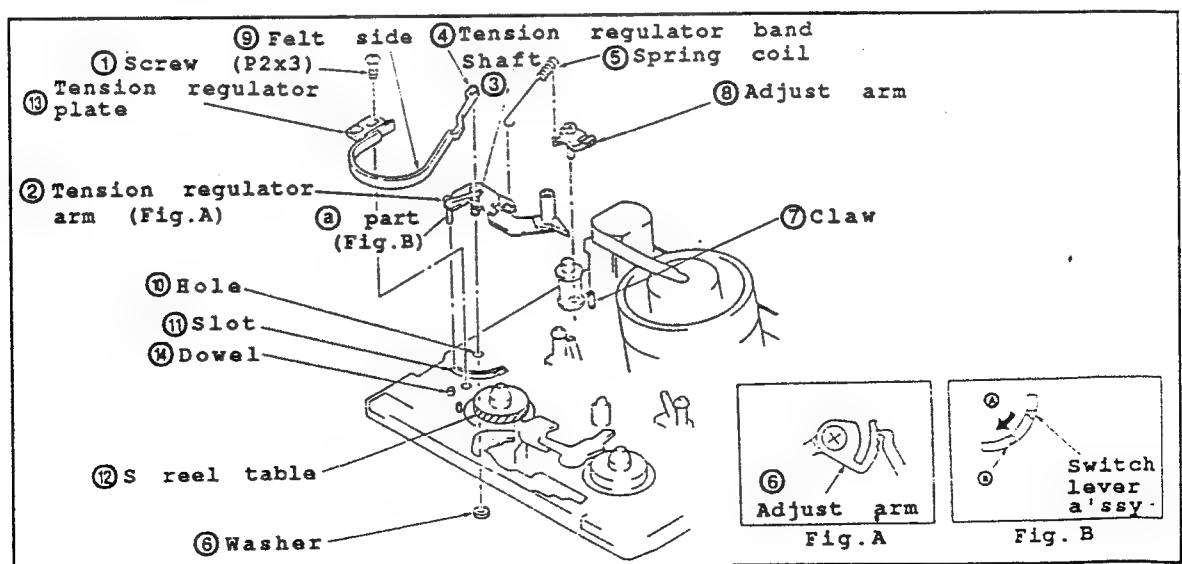

Fig.II-18
• Disassembling (Fig.II-18)
- (1) In the same procedures in "3-5", detach the TL plate.
- (2) Remove the screw ①.
- (3) Take off the tension regulator band from the shaft ③ of tension regulator arm ② by using a thin screwdriver or equivalent.
- (4) Remove the spring coil ⑤.
- (5) Remove the washer ⑥ from the rear side of mechanical chassis. Then, detach the tension regulator arm ②.
- (6) To detach the adjust arm ⑧, unhook the claw ⑦.
*Note: When detaching the tension regulator band ④, be careful not to twist or fold it. Also, when detaching it, do not touch the felt side ⑨ and drop the oil.
• Reassembling (Fig.II-18)
- (1) Mesh the adjust arm ⑧ with the position indicated in the Fig. A, then, hook the claw ⑦.
- (2) Apply the 1/2 drop of oil to the hole ⑩.
- (3) Attach the tension regulator arm ② to the slot ⑪ while inserting a part inside of switch lever a'ssy. (A indicated by an arrow.) (Fig.B)
- (4) While pressing the tension regulator arm ② from the front side of chassis, secure it with a washer ⑥ from the rear side.
- (5) Hook the spring coil ⑤ to the adjust arm ⑧ and the tension regulator arm ②, respectively. The direction of coil is as indicated in the Fig.
- (6) Attach the tension regulator band ④ to the shaft ③ of the tension regulator arm ② while fitting the felt side ⑨ onto the shadow area of S reel table ⑫.
- (7) Assemble the tension regulator plate ⑬ of the tension regulator band ④ while aligning it with the dowel ⑭ of chassis. Then, secure it with the screw ①.
- (8) In the same procedures in "3-5", attach the TL plate.
- (9) In the same procedures in "3-21", perform the tension regulator adjustment.
- (10) In the same procedures in "3-22", perform the back tension adjustment.